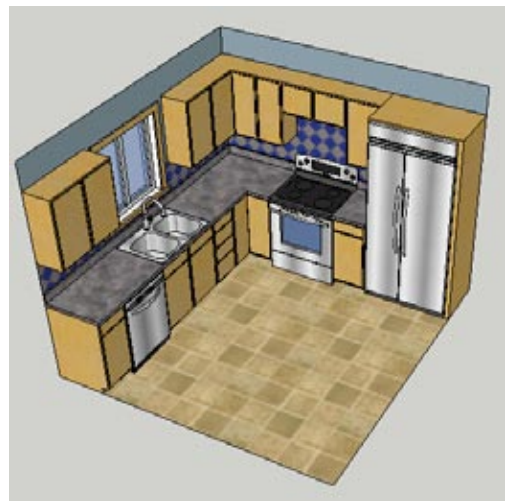

Figure 11-21
1. Download my Kitchen Floor model from the 3D Warehouse (Figure 11-21). The current floor has beige tiles, and you want to see how a different floor would look.